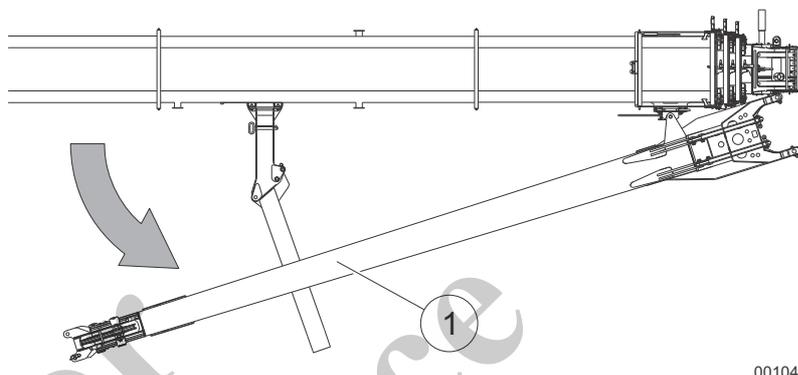

Fig. 210 Unbolting the ramp
- 13 Use the rope to pull the fly boom (1) in Fig. 210 until the right-hand bolting openings of the fly boom align with those of the telescopic boom.